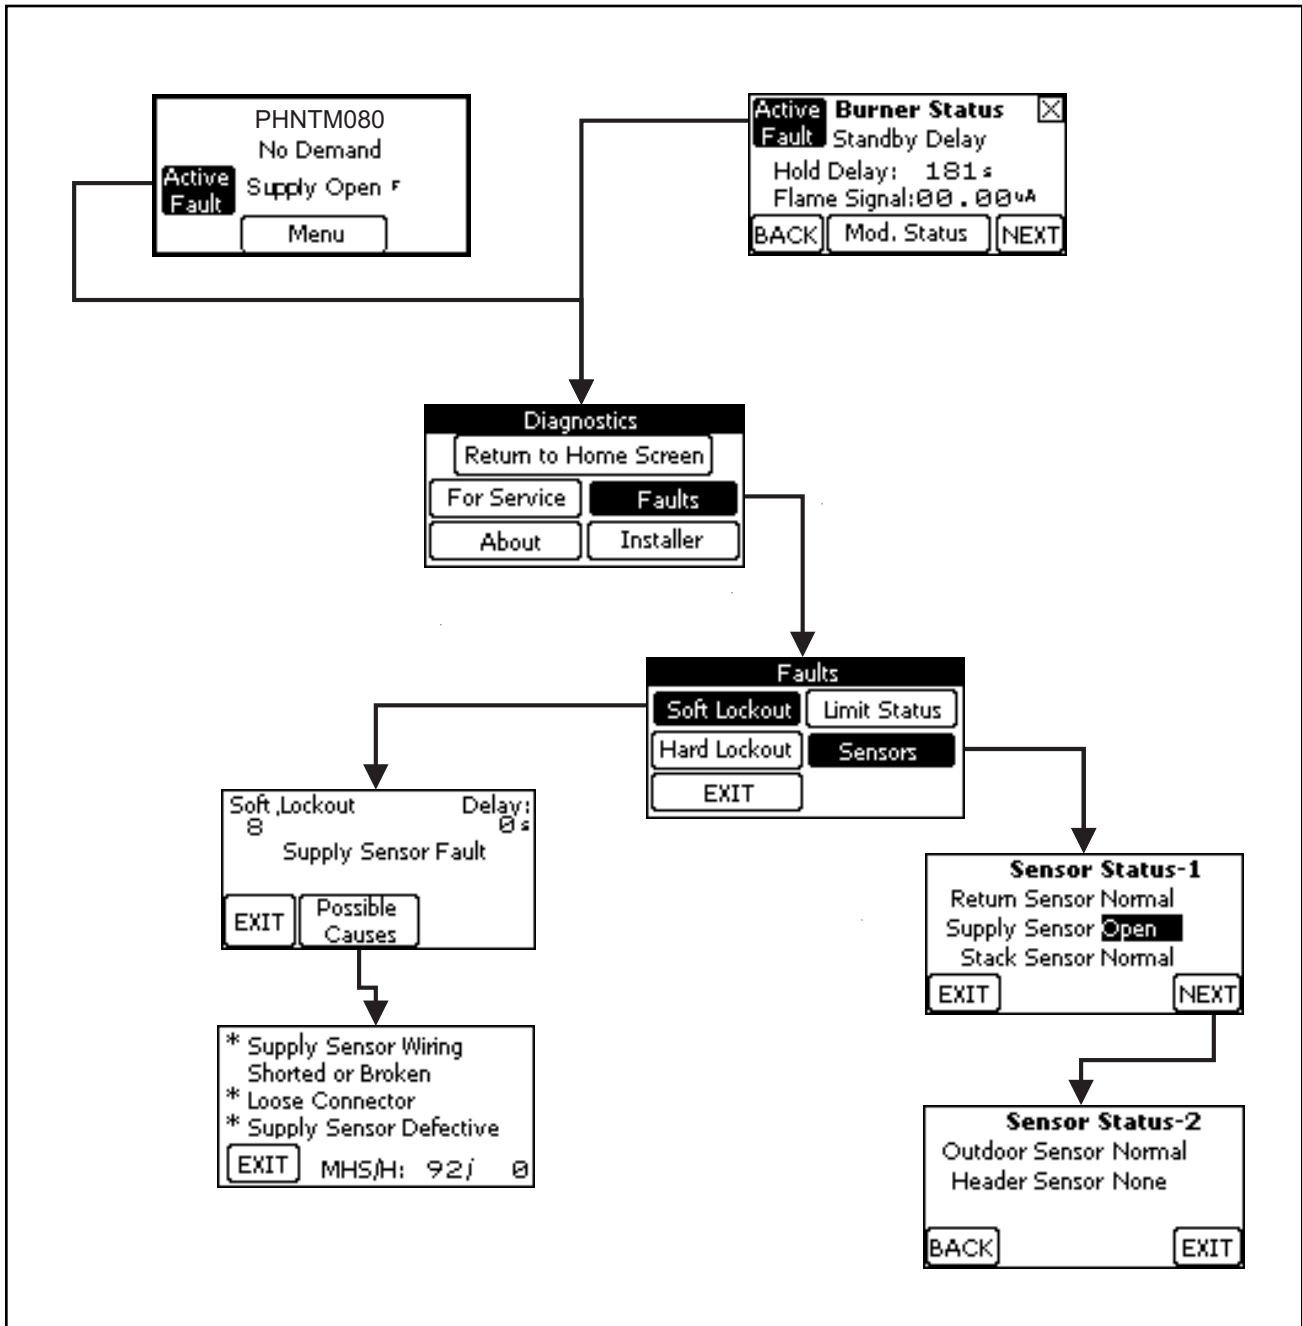

FIGURE 14.0: EXAMPLE OF DIAGNOSTIC MENU DURING SOFT LOCKOUT
The plain text display provided with this boiler provides an easy means of identifying most common problems. In the event that the control system detects a problem, such as an open limit or defective sensor, the Active Fault button shown in Figure 14.0 will appear and flash on both the Home Screen and the Burner Status Screen. Touching either Active Fault button will take the user to the Diagnostics Menu. From here, press the flashing button on each successive screen to reach a list of possible causes. In the case of a defective temperature sensor, a defect indicator will also show up on the status screens where the corresponding temperature is normally displayed. See Figure 14.0 for an example of this.
- 3) **Fault Menu** - Provides status of different types of faults by category. When a particular fault exists, the button for that category of faults will flash (see Figure 14.0 for an example of a faulty supply sensor). In the example shown in Figure 14.0, both the Sensor and Soft Lockout buttons flash on the Fault Menu because a defective supply sensor also causes a soft lockout. Fault categories include:
- a) **Soft Lockout** - A soft lockout prevents the boiler from firing until the problem has been corrected and, in some cases, a specified amount of time (up to 1 hour, depending on the nature of the fault) has passed. An example of the Fault Menu structure during a soft lockout is shown in Figure 14.0